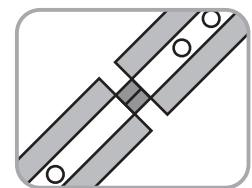

FIGURE 3
- Take care that the lens and LEDs are facing the same direction on all Bright Strips, and that they match up flush with each other (see Figure 3).